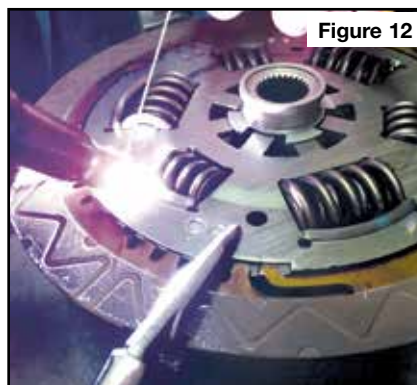

Figure 12
- e. Once in place, weld tops of eight rotary cut rivets (Figure 12).